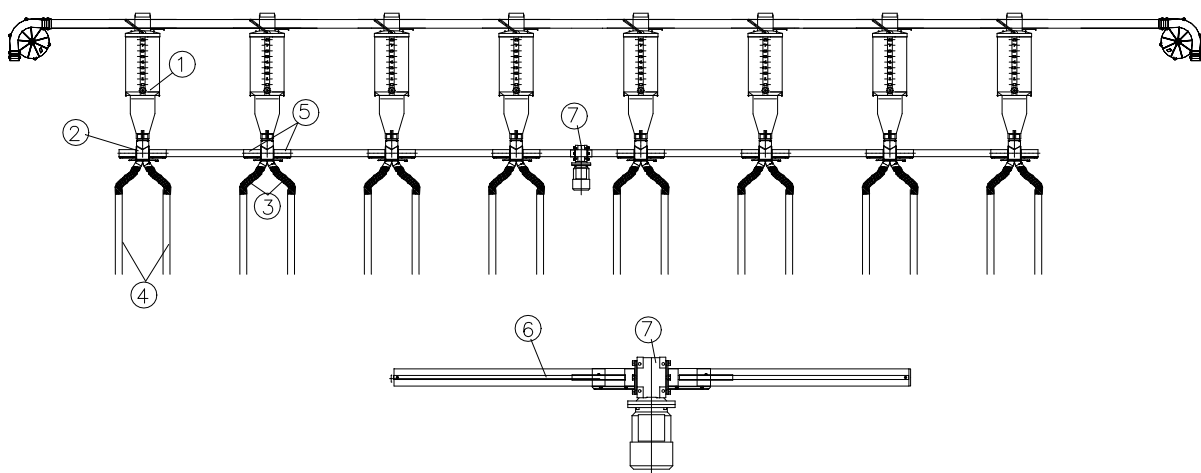

Fig. 55 Construction of trickle feeding
The various proportioning units are connected by means of a driving shaft (6), protected by a pipe. Apart from that at least one gear motor (7) should be used as a minimum at every 20 cellular dispensers (see Fig. 55).